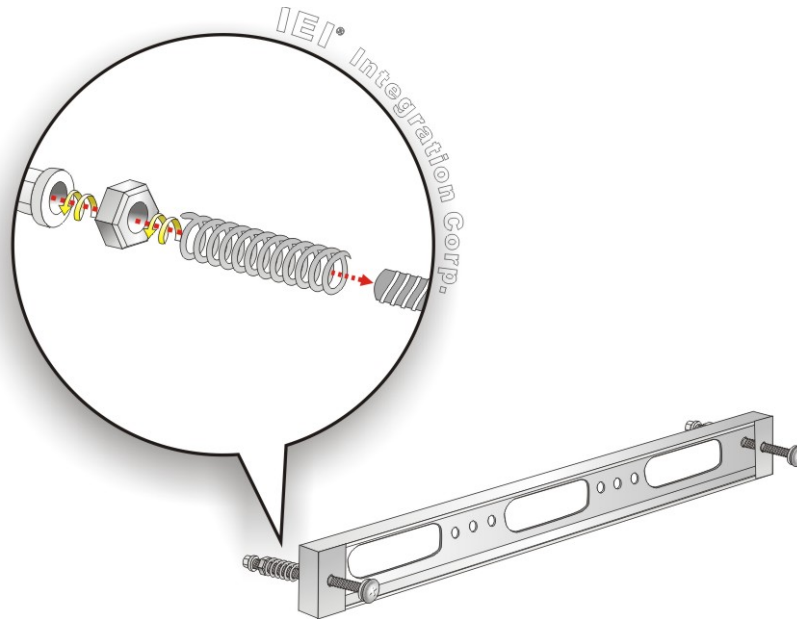

Figure 3-30: Panel Mounting Kit Installation
- See **Figure 3-30**.
See **Figure 3-30**.